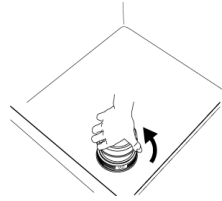

Fig.44
- 2- Unscrew the cap of salt container located inside the tank by turning it anticlockwise. (Fig.44)